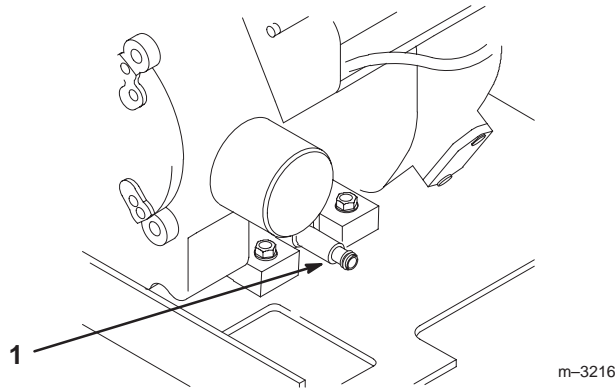

Figure 22
- Open the drain valve by turning it counterclockwise, pulling out as you turn it (Fig. 22).